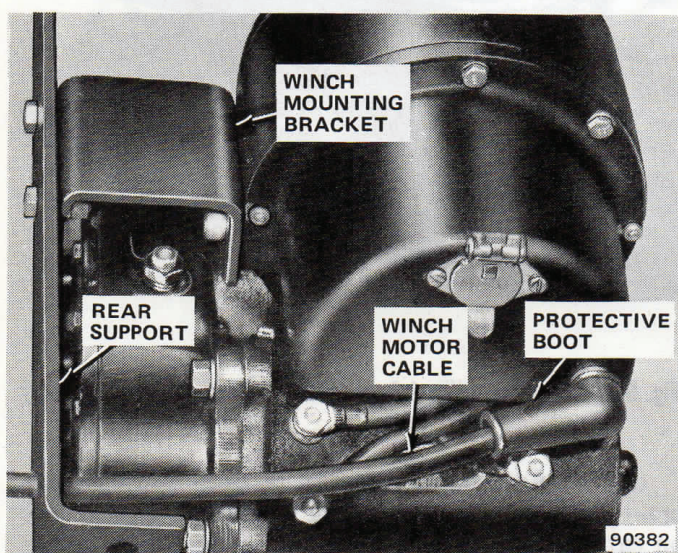

Fig. 5-27 Winch Motor Cable Installation
(8) Install rubber protective boot on one end of winch motor cable and connect that end of cable to solenoid (fig. 5-27).